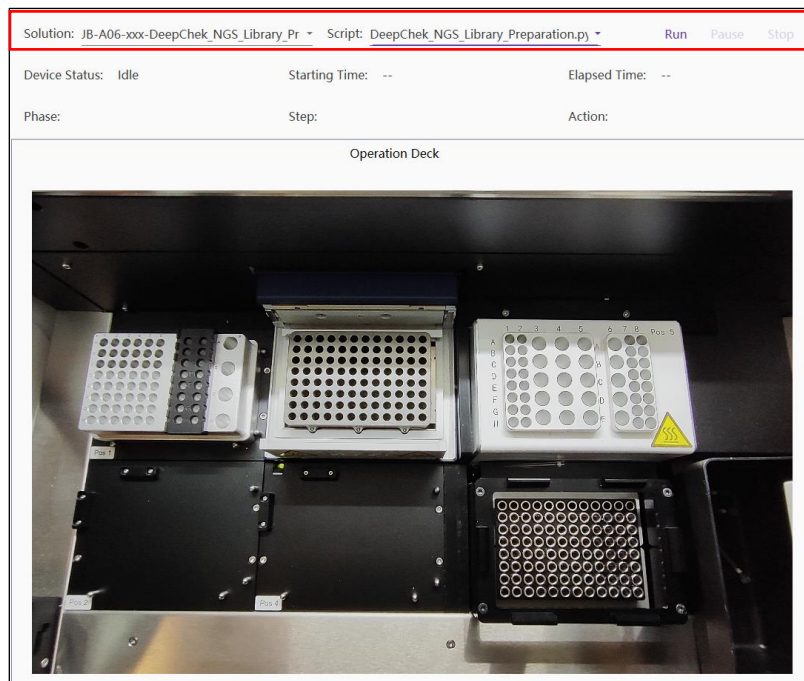

Figure 3-10 Run Wizard
- 5) On the **Run Wizard** interface, as shown in Figure 3-10, click **Solution** to select **JB-A06-xxx-DeepChek\_NGS\_Library\_Preparation**, click **Script** and select **DeepChek\_NGS\_Library\_Preparation**.